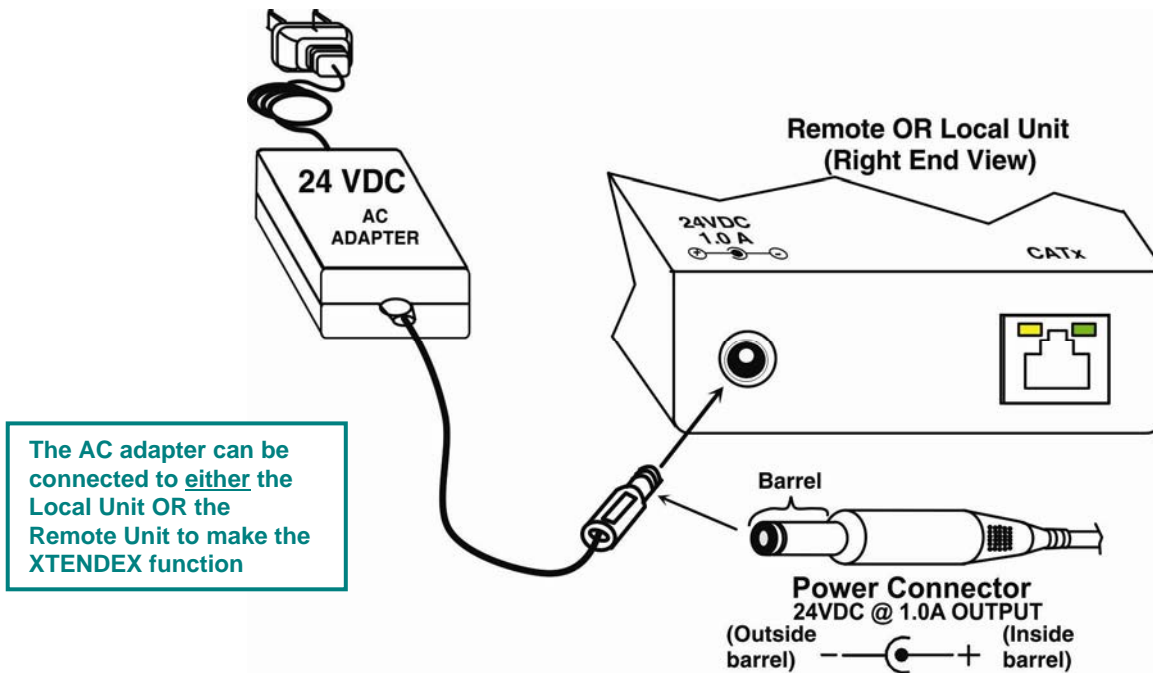

Figure 4- Connect the AC adapter to either the Remote Unit or the Local Unit
2. Connect an AC adapter power connector to the 24VDC port on **either** the Remote Unit or the Local Unit. Plug the AC adapter into a power outlet. The green LED on the RJ45 connector of both the Remote and Local Units should illuminate, indicating that a proper power connection has been made to them. (See Figure 4)